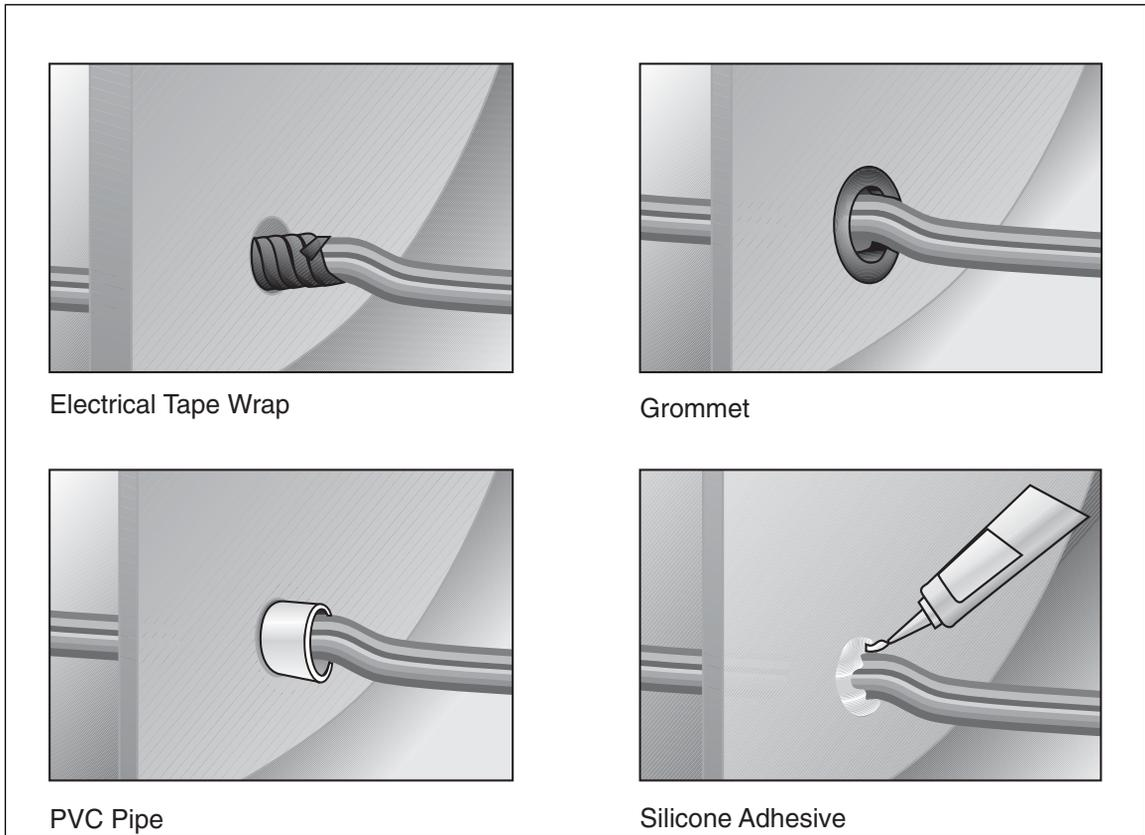

Fig. 4-20. Acceptable methods of providing abrasion protection through bulkheads.
- ▶ Grommets must be used when running wires through cutouts in bulkheads and fiberglass panels. Some acceptable types are illustrated in figure 4-20.